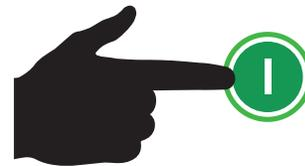

Figure 57. Start Button
5. Press the **START button** (Figure 57) on the touch display to start the engine.